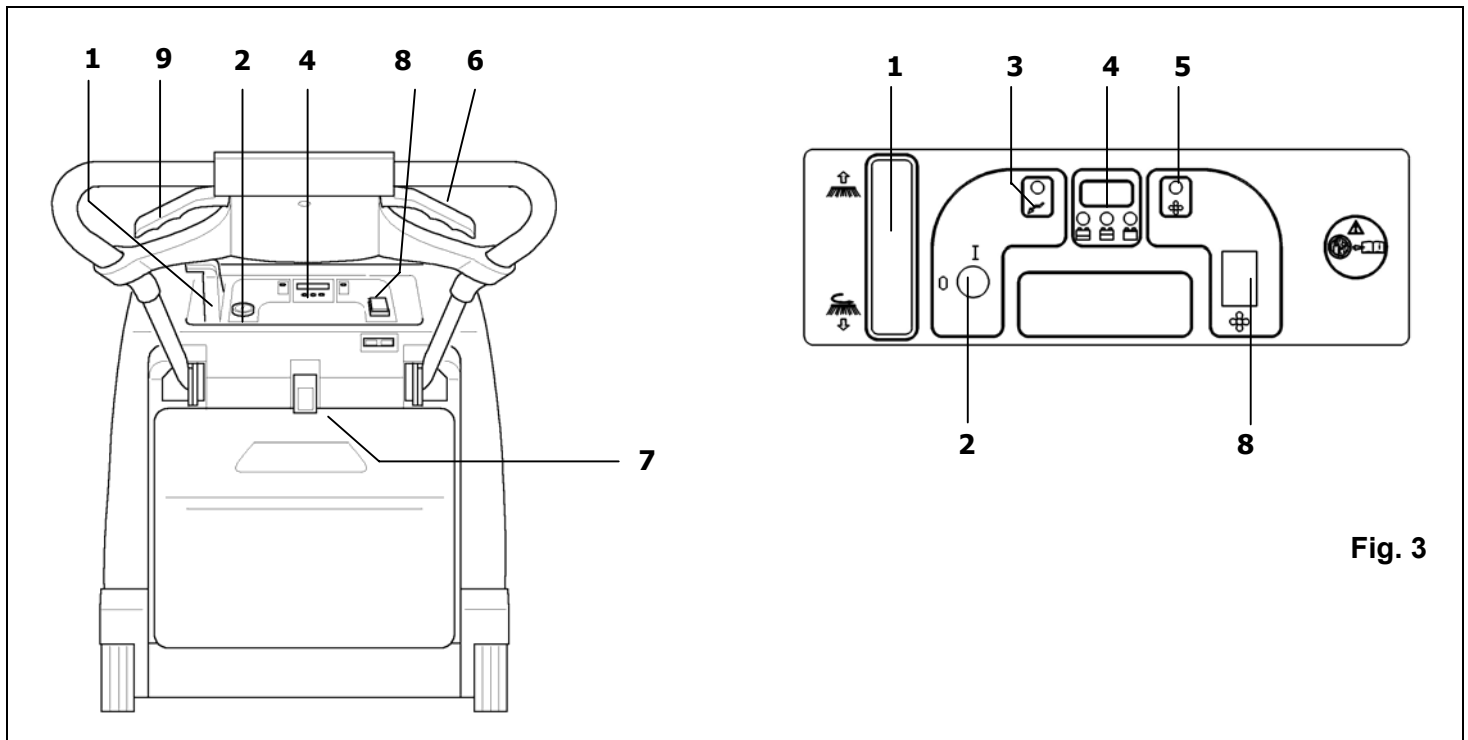

Fig. 3
- Switch the brush lift lever (**1 Fig.3**), to **OFF**.
- Make sure the side brush **pos.1 Fig.3** is **0**.
- **Turn the switch pos.2 Fig.3 to position I**. Wait 10 seconds before operating machine.
- Before operating machine, check the indicator **pos.4 Fig.3**, to assess whether the battery is fully charged. If it is not, proceed to recharge it.
- Pull the traction lever **pos.6 Fig.3**, to start cleaning.
If necessary, operate lever **pos.1 Fig.3**, by turning it to **I position**, to start the side brush. If you have been using the side brush, at the end of your work remember to turn it to **0 position**. Switch off the machine and remove the key from the control panel.
The length of time the battery charge lasts will depend on its routine maintenance and on its discharge level. Do not allow the battery charge to drop below the limit signalled by the indicator lights **pos.4 Fig.3**. Once the max. discharge level has been reached, the machine stops and must be recharged in order to restart working.